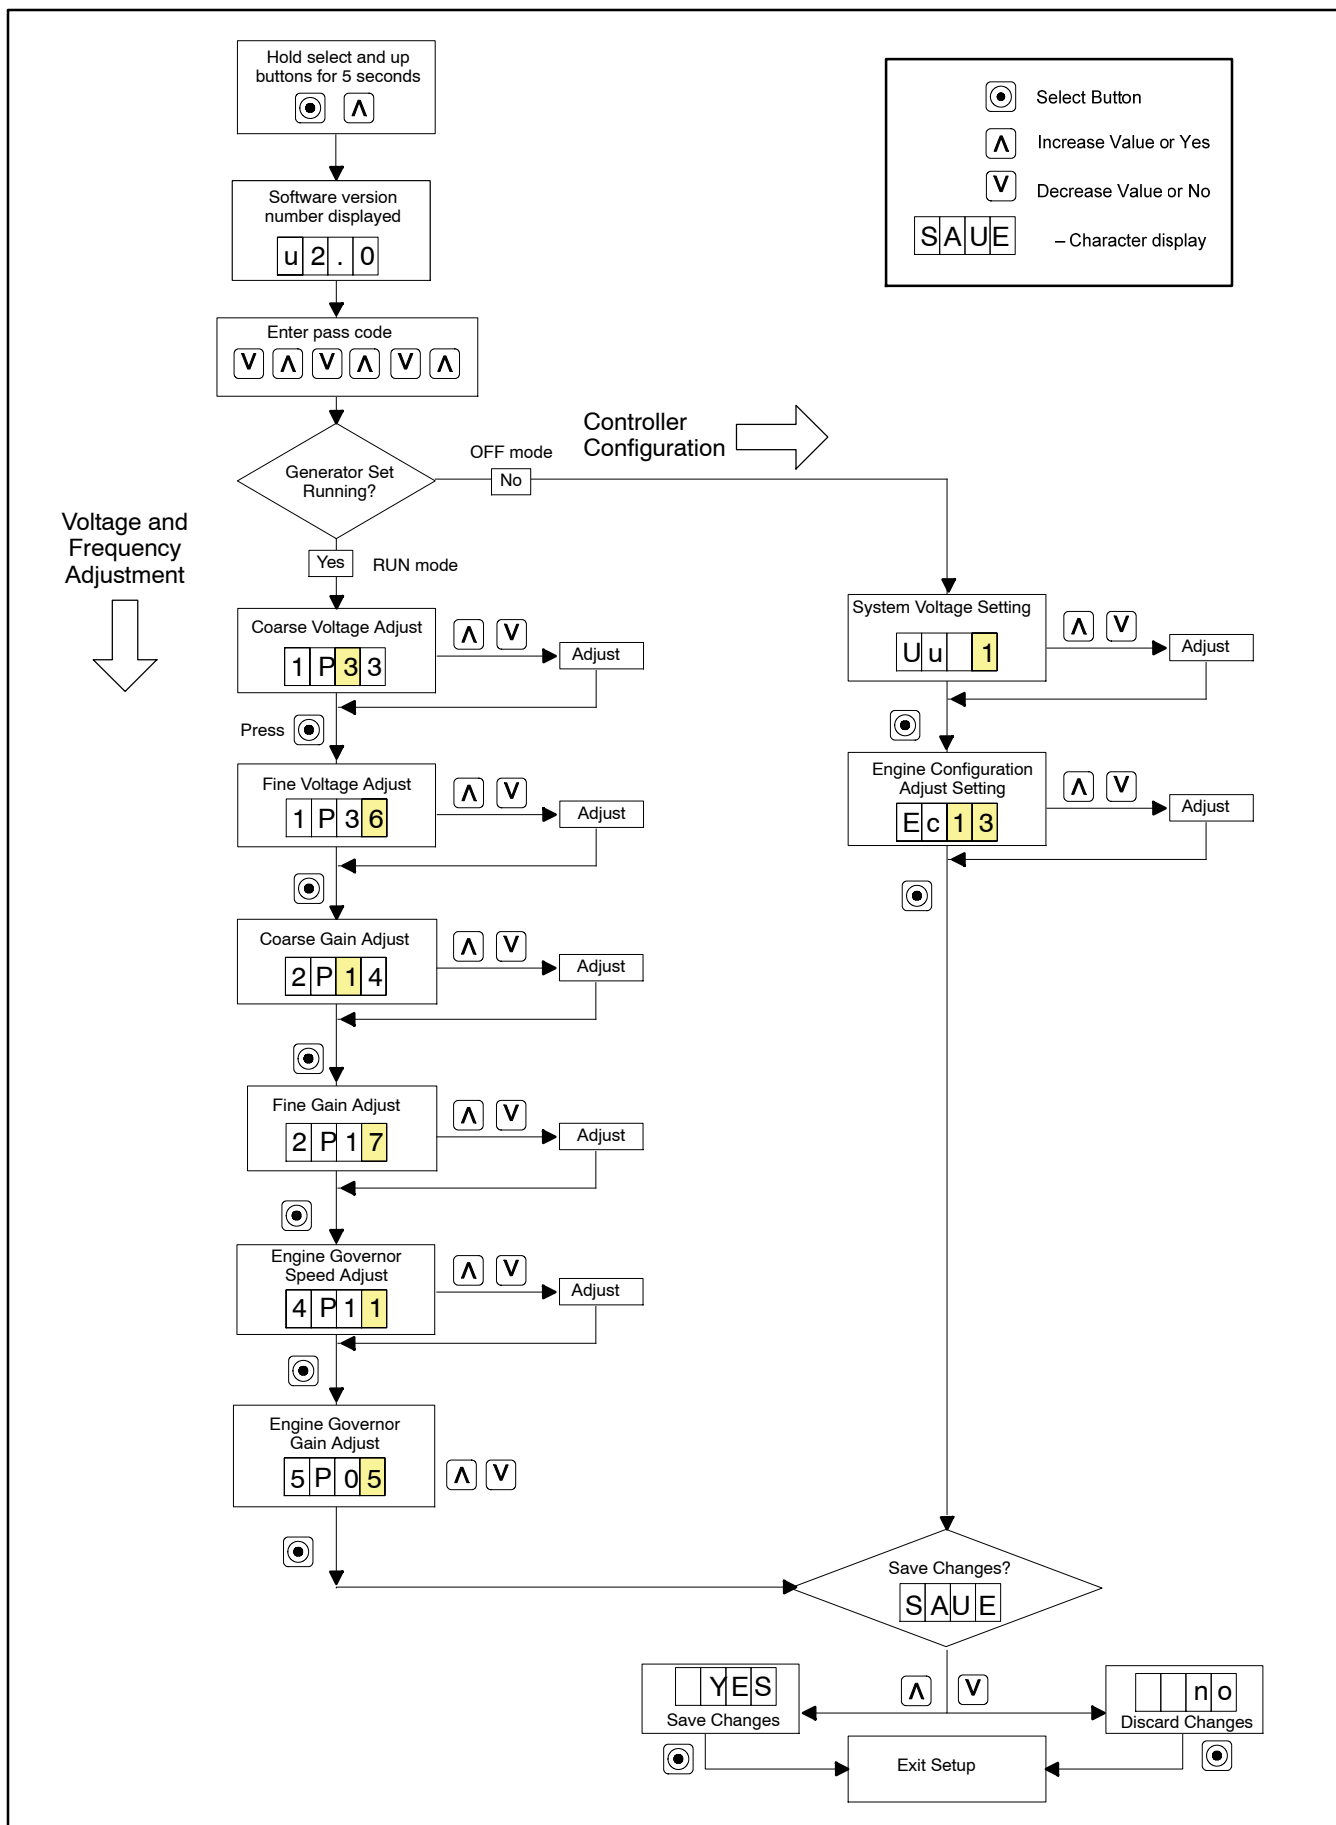

Figure 5-15 RDC Controller Adjustment
When using the RDC controller keypad, the controller will time out and exit the adjustment mode after approximately 1 minute if no buttons are pressed. Any unsaved changes are discarded if the controller times out before the settings are saved. See Figure 5-15 for instructions to save your settings.
Refer to Figure 5-15 during the adjustment procedure.
3. Follow the controller instructions in Figure 5-15 to enter the adjustment mode. Increase or decrease voltage (parameter 1P) until the output reaches the desired voltage. See Figure 5-13.
4. Follow the controller instructions to step to the voltage gain (parameter 2P) adjustment menu. Adjust the voltage gain (2P) until the light flicker minimizes. Save the settings. See Figure 5-15.
6. Save the settings. Refer to Figure 5-15 for instructions.
Note: See Figure 5-15 for instructions to adjust engine governor speed (frequency) and gain.
4. Use the RDC controller to adjust the electronic governor speed (parameter 4P) to obtain a frequency reading of 60 Hz (or 50 Hz on 50 Hz models). See Figure 5-15.